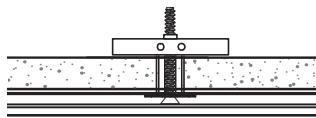

Fig. 11
- o Use included Snap toggles® for unbacked Sheetrock as shown in **Figure 11**.